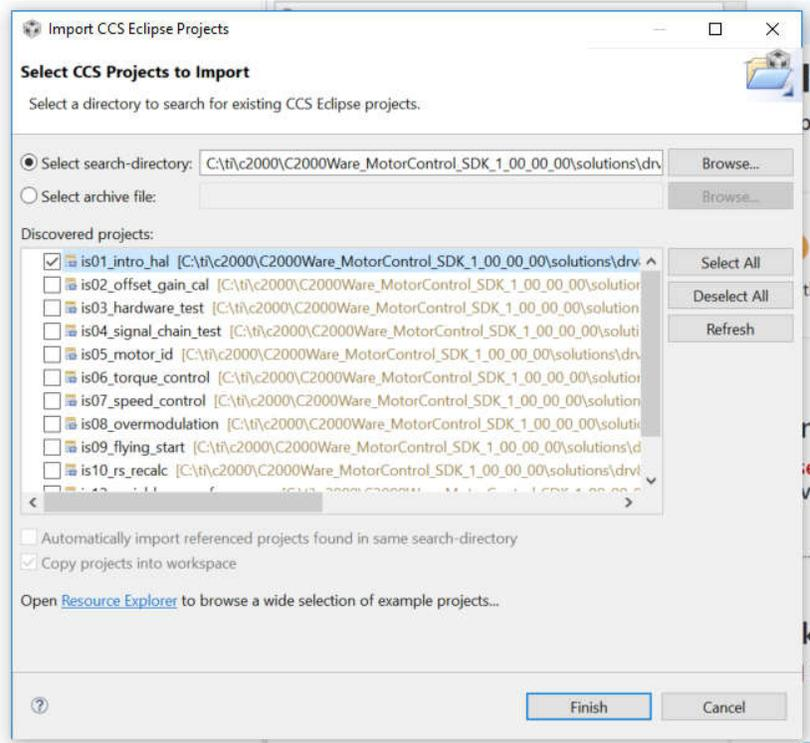

Figure 4: Import Project “is01_intro_hal” to CCS.
3. The resulting window displays a list of discovered projects within the f28004x folder. From this window, select the is01_intro_hal project as **Figure 4**, and then select “Finish”